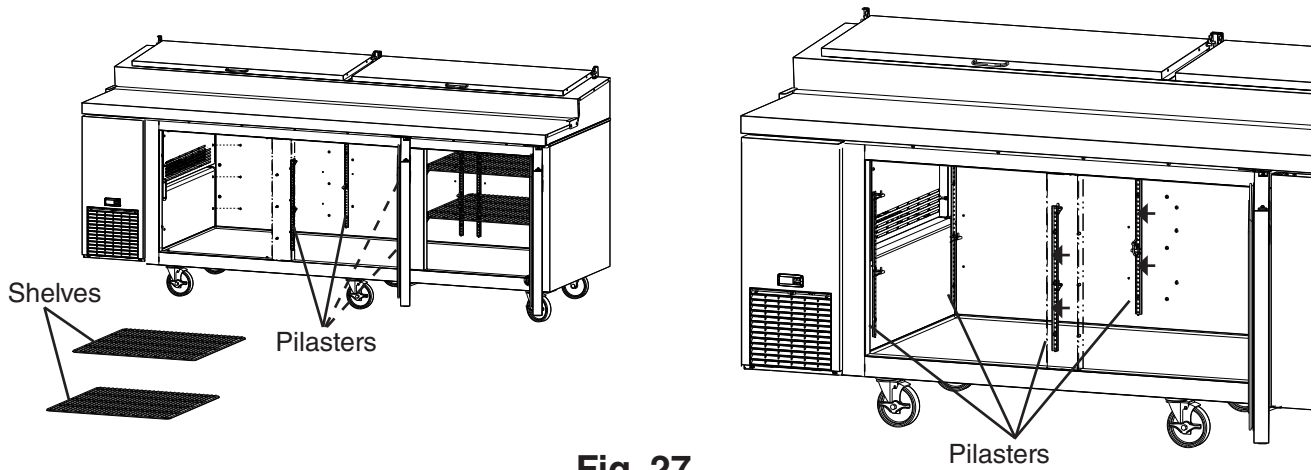

Fig. 27
- 7) Remove the shelves from the door section, then remove the pilasters and place and secure them in the new location (current drawer location). See Fig. 27. Note: Other than in a center location, outer pilasters mount on the side wall not the rear wall.